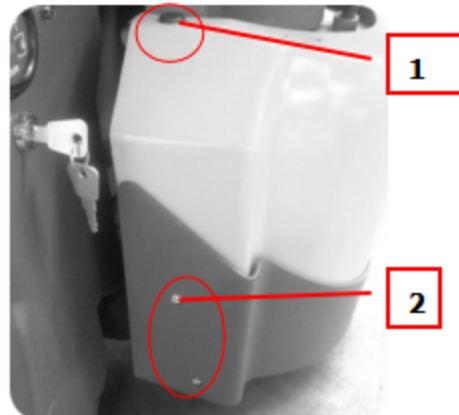

Figure 21
- (Fig.21) Screw off screw 1 and 2, total 6 pieces, then remove the housing